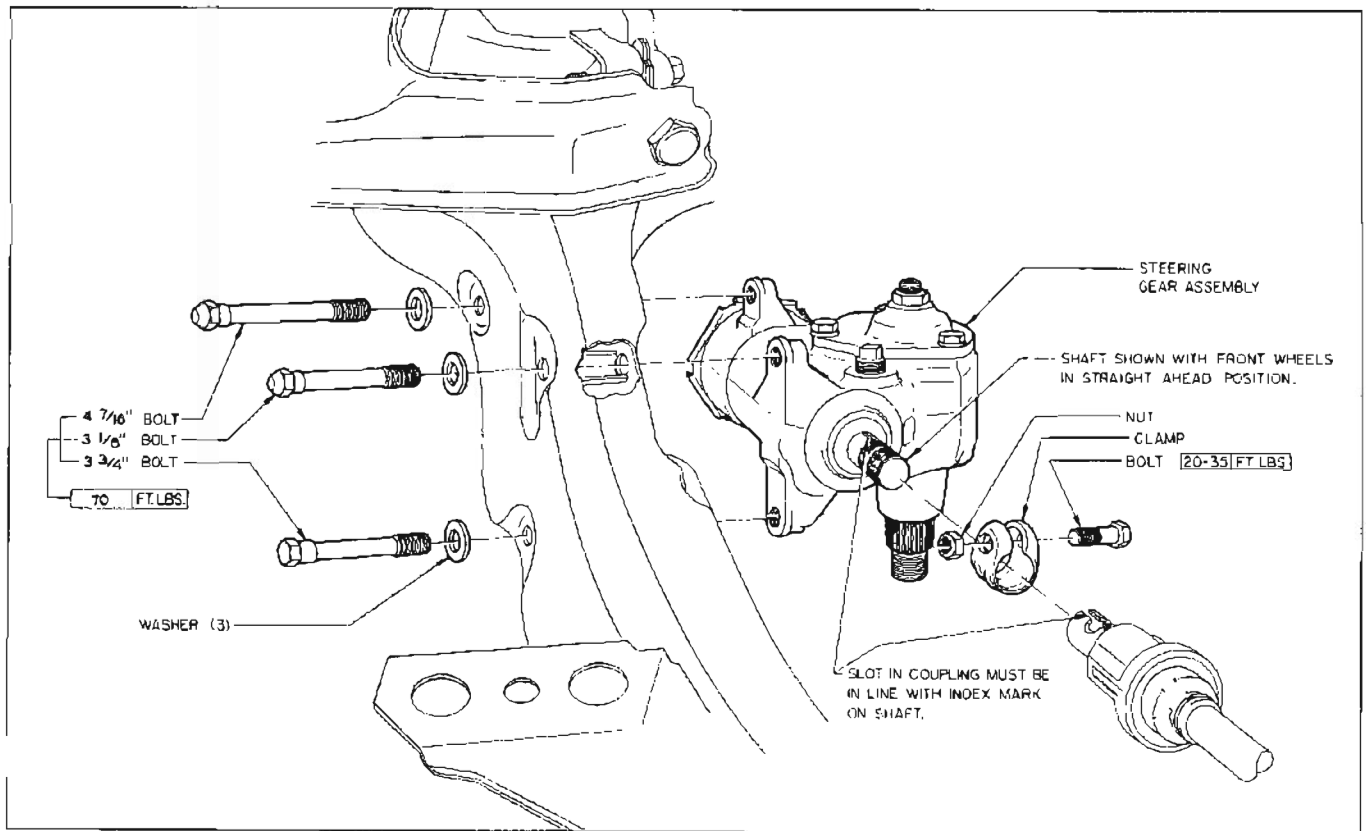

Figure 8-9—Manual Steering Gear Installation
1. Install the gear assembly by reversing the procedure for removal. Make sure that slot in coupling lines up with mark on worm shaft, See Figure 8-9.